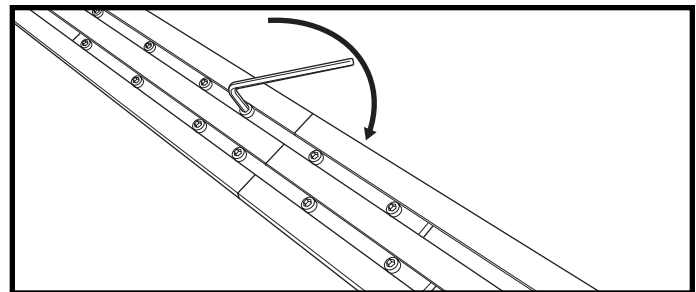

fig. 6 - Securing Fence Sections Together
- Lay the attached sections on a flat surface. Tighten all set screws making sure the connected fences are completely straight (see fig. 6).